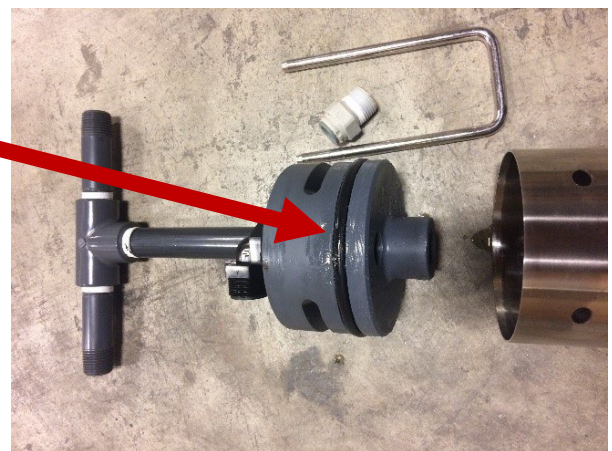

Figure 2
- ii. If the existing membrane end cap is being reused, clean the O-Ring grooves prior to the new O-Ring installation. Refer to 'Figure 2' below.